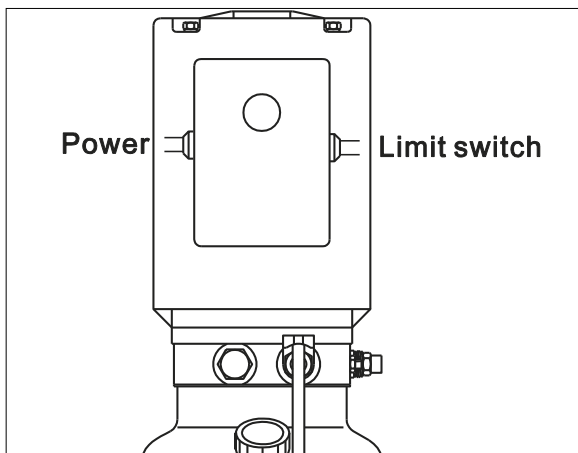

Fig. 35
box of the motor (**Fig. 35**) following the wiring diagram on **Page 4**.
4.4.3.4 Close the cover of the junction box. Press the up push button (**Fig. 35**), the motor rotation direction should be the one shown by the arrow on the pump.